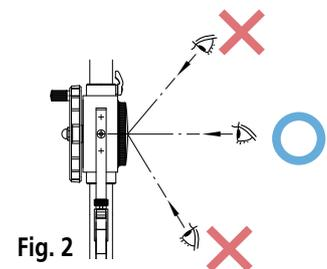

Fig. 2
Coarse feed or fine feed can be selected by pulling or pushing the handle of the slider feed wheel. (**Fig. 2**)
1. Read the dial graduations from directly above to avoid parallax error. **(Fig. 2)**